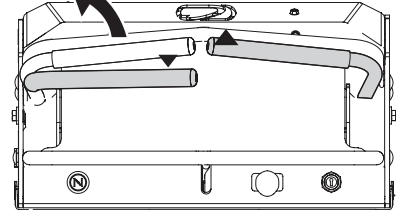

Figure 10
1. To turn to the right, move the right drive control lever rearward of the left lever. See Figure 10.
2. To turn to the left, move the left drive control lever rearward of the right drive control lever. See Figure 10.